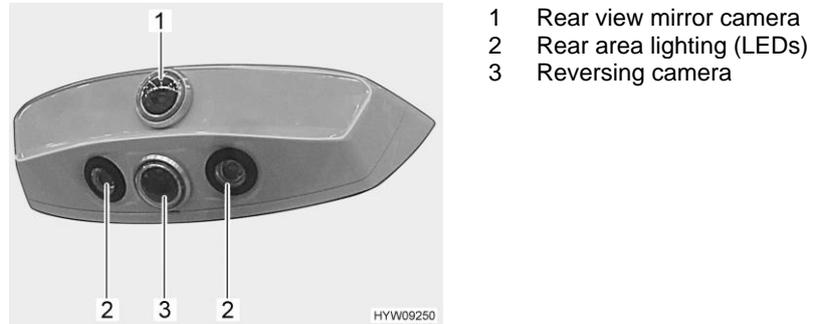

Fig. 22 Camera module
- Reversing mode / monitoring mode: The reversing camera (Fig. 22,3) shoots the immediate area behind the vehicle. The immediate area is shown on the display. No camera image is displayed while travelling forward.
- Driving mode: The rear view mirror camera (Fig. 22,1) shoots the long-distance area behind the vehicle. The long-distance area is shown on the display ("3rd rear view mirror").
LEDs (Fig. 22,2) are integrated in the camera module. After dark, these LEDs can illuminate the area behind the vehicle (when using the camera and also independently of the camera).